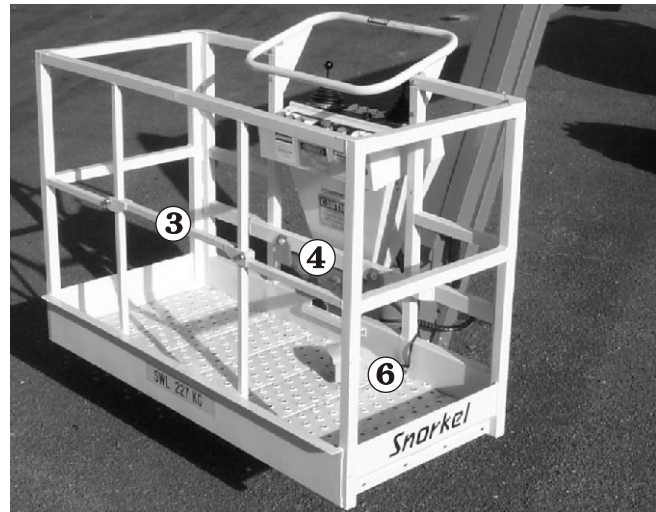

Figure 7.2—Platform
3. Enter the platform and securely close the gate³ (refer to Figure 7.2).
4. Attach the fall restraint harness to one of the anchor points⁴ (refer to Figure 7.2).
7. Step down on the platform foot switch ⁶ (refer to Figure 7.2 and & 7.5).